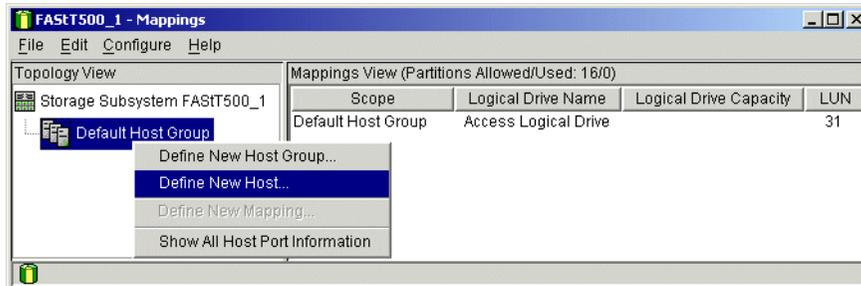

Figure 5-24 Mappings window
2. The FAST500_1 - Mappings window is displayed, which allows you to perform storage partitioning (see Figure 5-24):